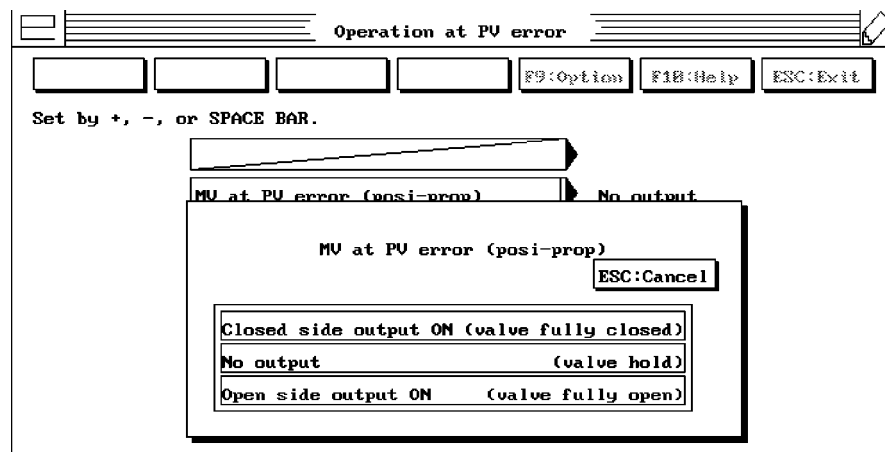

Figure 7
4. Select the desired action from the pop-up menu in Figure 7.